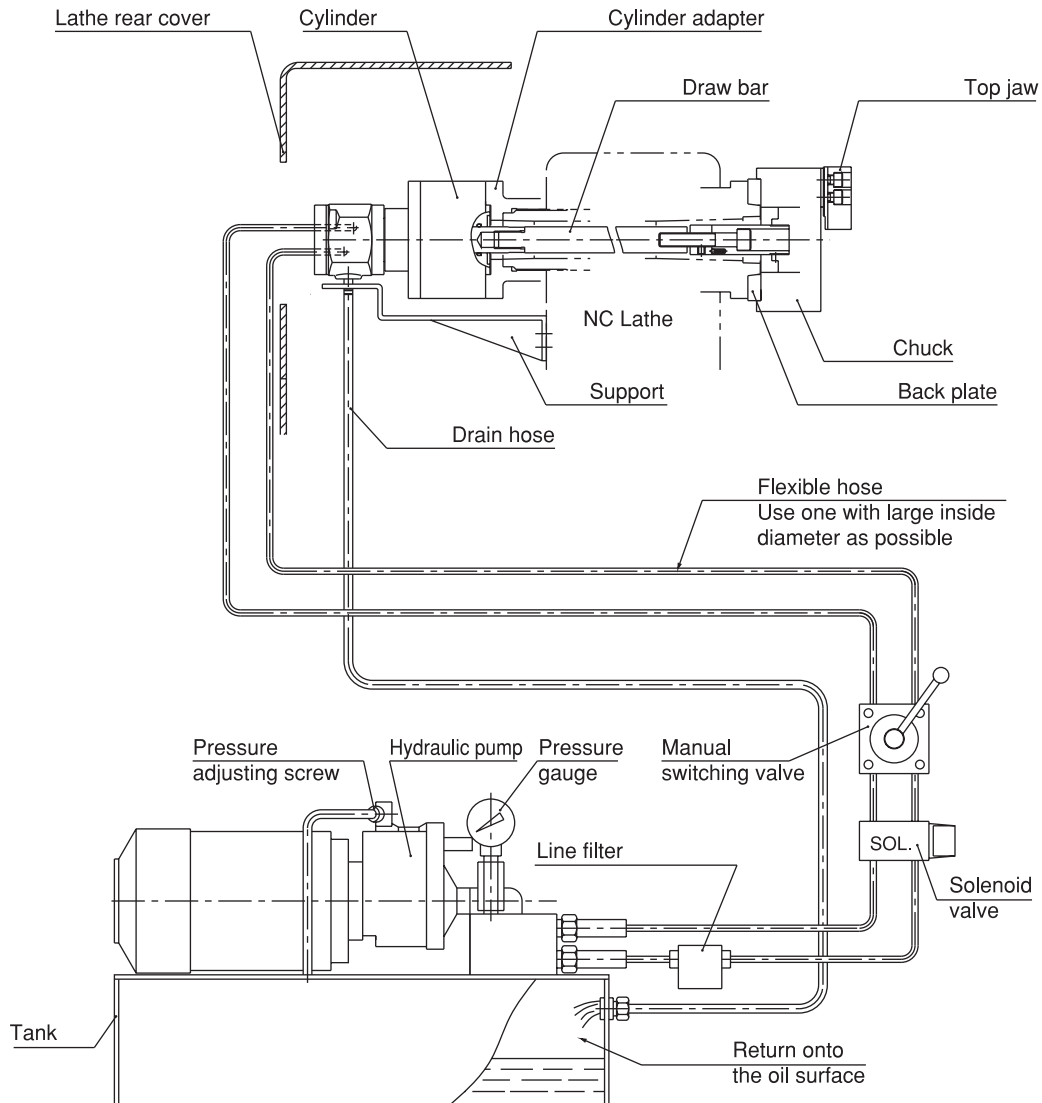

Fig. 7
- The end of the hose is physically above the oil level. (Refer to Fig.7)
- Arrange the drain hose to come back to the above of oil tank surface of the hydraulic unit. (Fig.7) If the drain hose is connected to T-port such as valve block, etc., the oil seal of cylinder will damage because backpressure is applied to the hose.